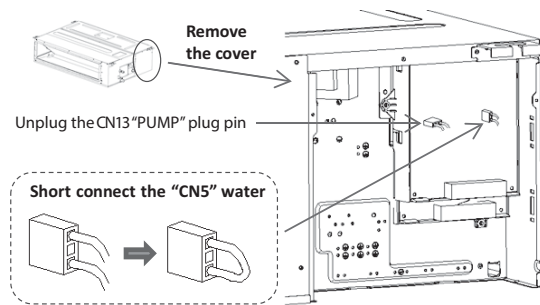

Fig. 33 — Disable condensate lift pump
- Open the Control Box assembly cover, unplug the "CN13 PUMP" pin to disable the pump function, and short-connect the "CN5 WATER" plug to disable the water level sensor by either splicing the wires coming out of the CN5 WATER plug or by using a jumper plug Replacement Component part number 17401204000333 (optional in some units otherwise sold separately) (see Figures 33 and 34).